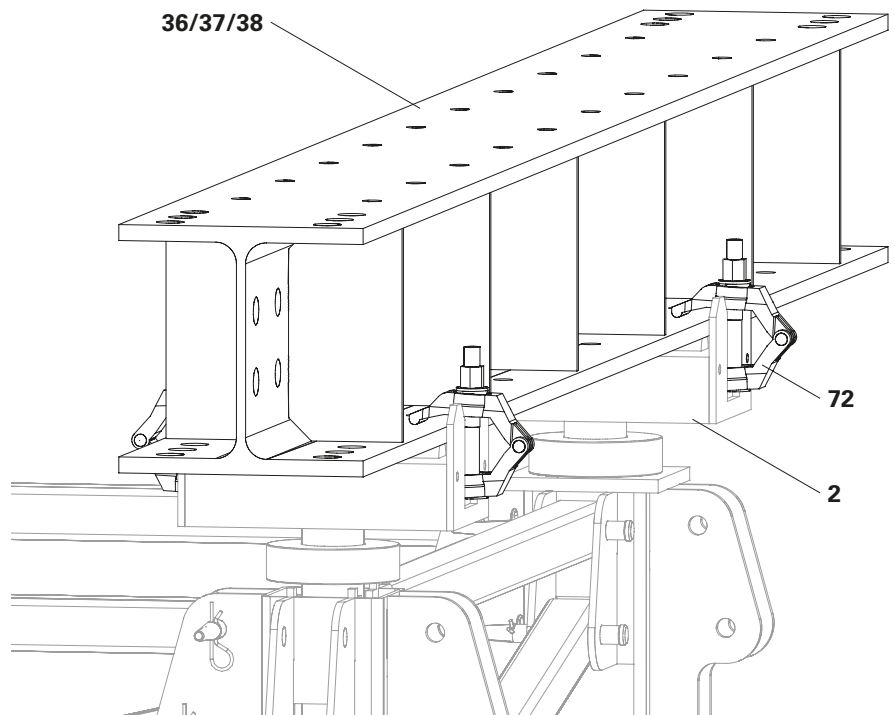

Fig. C1.01a
3. Fix main beams **(36/37/38)** to the Head Spindles ATS **(2)** using 2x Girder Clamp HD 70 mm **(72)** respectively. (Fig. C1.01a)